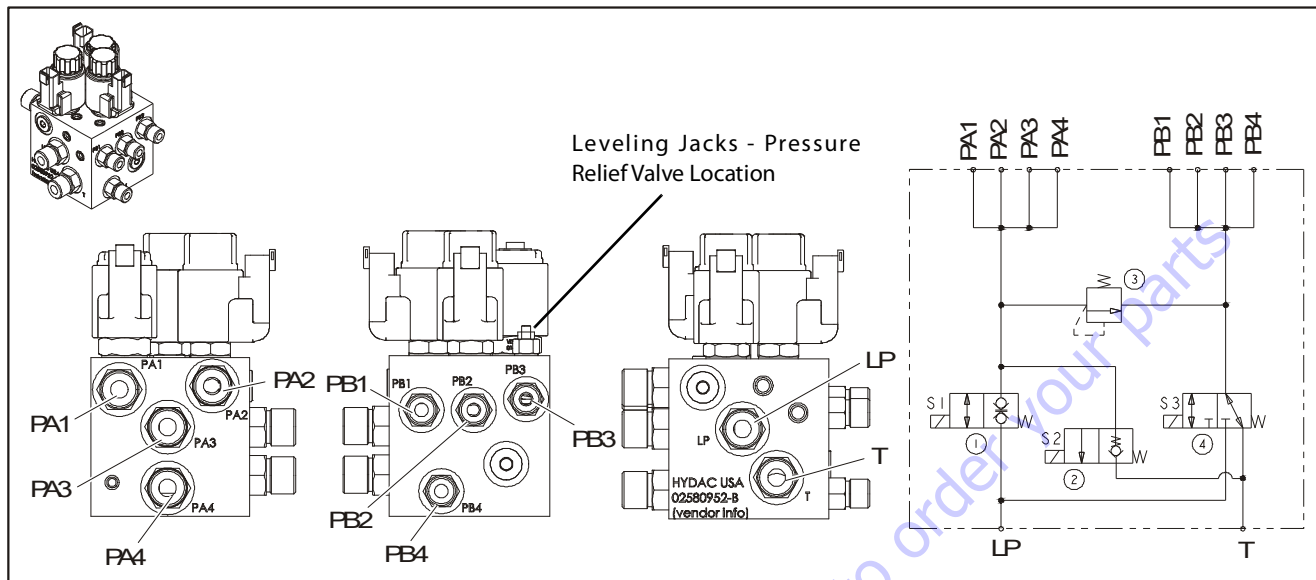

Figure 2-23. Leveling Jacks Directional Valve
4. Adjust the relief valve located on the leveling jack directional valve (refer to Figure 2-23.) clockwise to increase, counterclockwise to decrease. (The relief valve is on the same face as the solenoid valves).